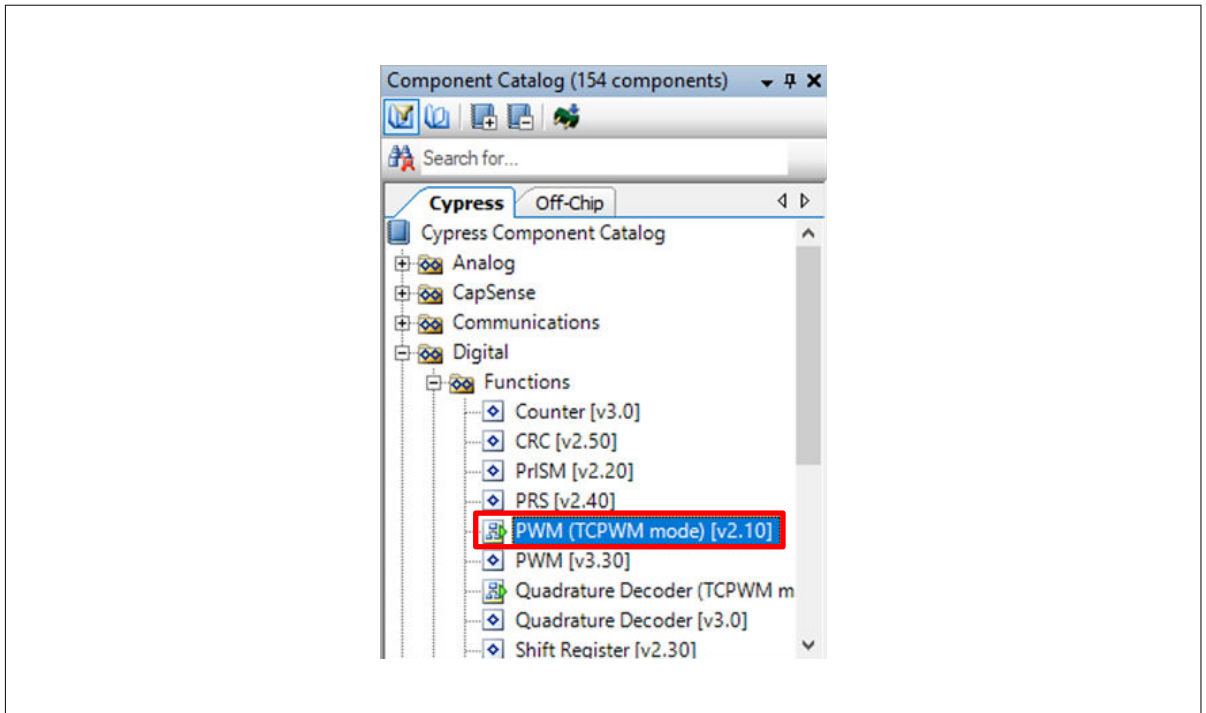

Figure 38 Location of the PWM Component
6. Drag one PWM (TCPWM mode) Component from the Component Catalog onto the schematic, as shown in Figure 38.